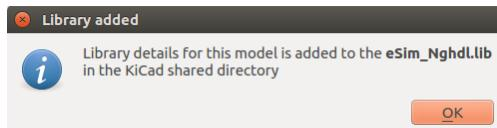

Figure 9.4: Uploading of digital model
2. Now browse and locate the VHDL file to upload. Select the VHDL file and click on the Upload button. This process will create Ngspice model and corresponding component drawing inside the KiCad library (eSim_Nghdl.lib) of the VHDL block to be used in mixed-mode simulations. An acknowledgement message will appear upon sucessful processing of the VHDL code as shown in Fig. 9.4.